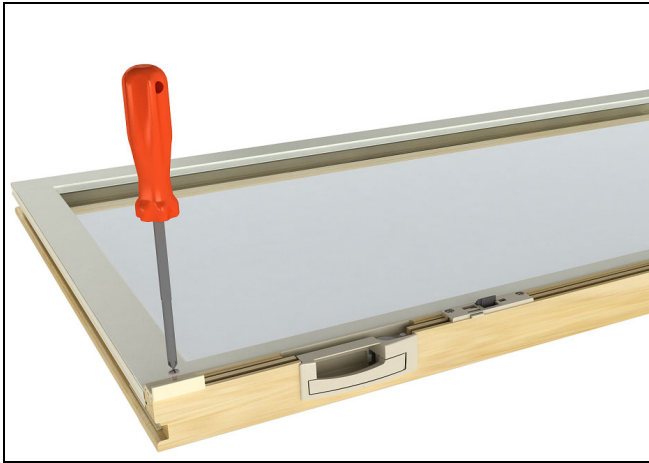

Figure 3
3. Install the window opening control bumper at the bottom of the sash and fasten with 1" screw. See Figure 3.